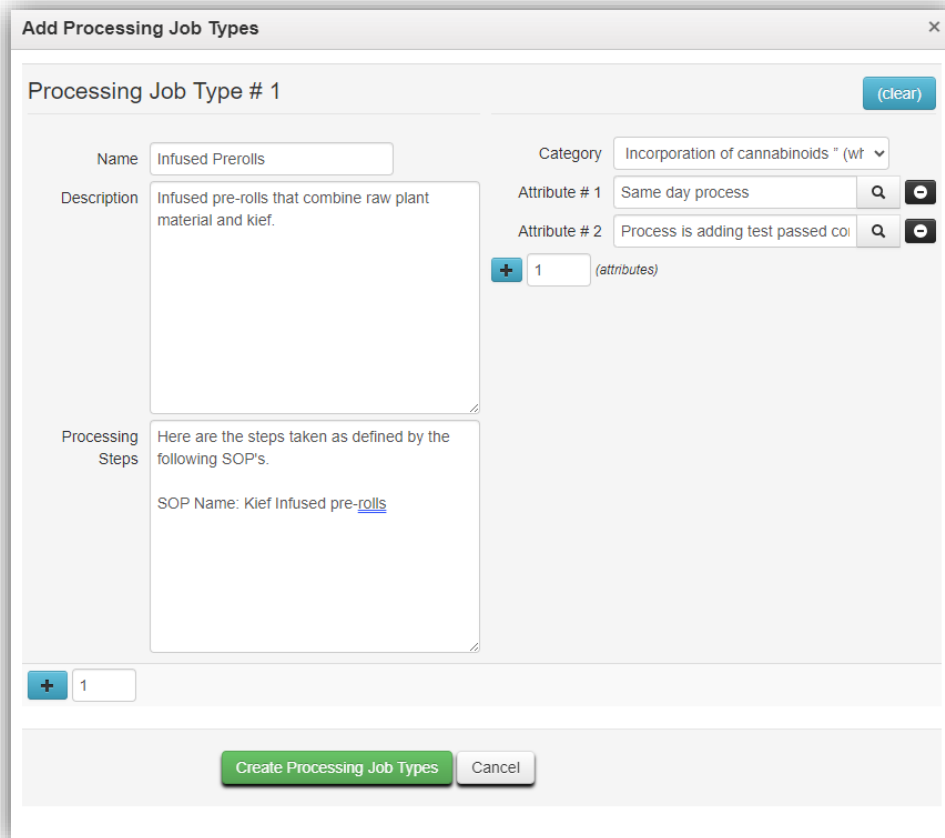

Figure 6: Add Processing Job Types action window
- All the following fields in the Add Processing Job Types action window must be completed – see **Figure 6**.